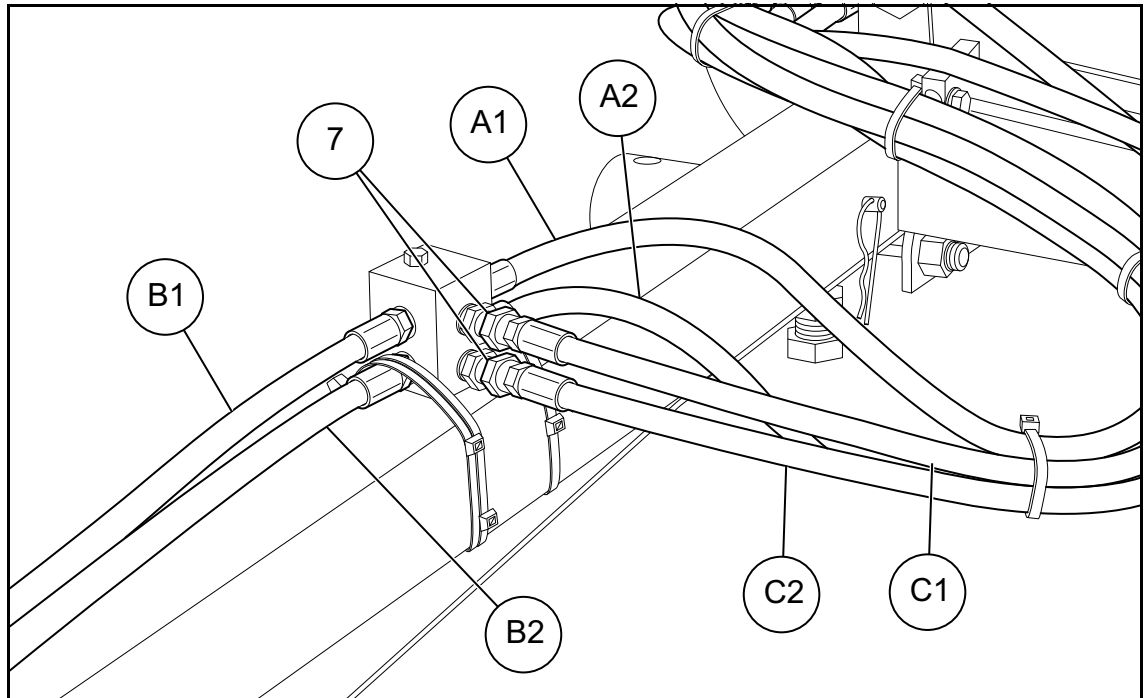
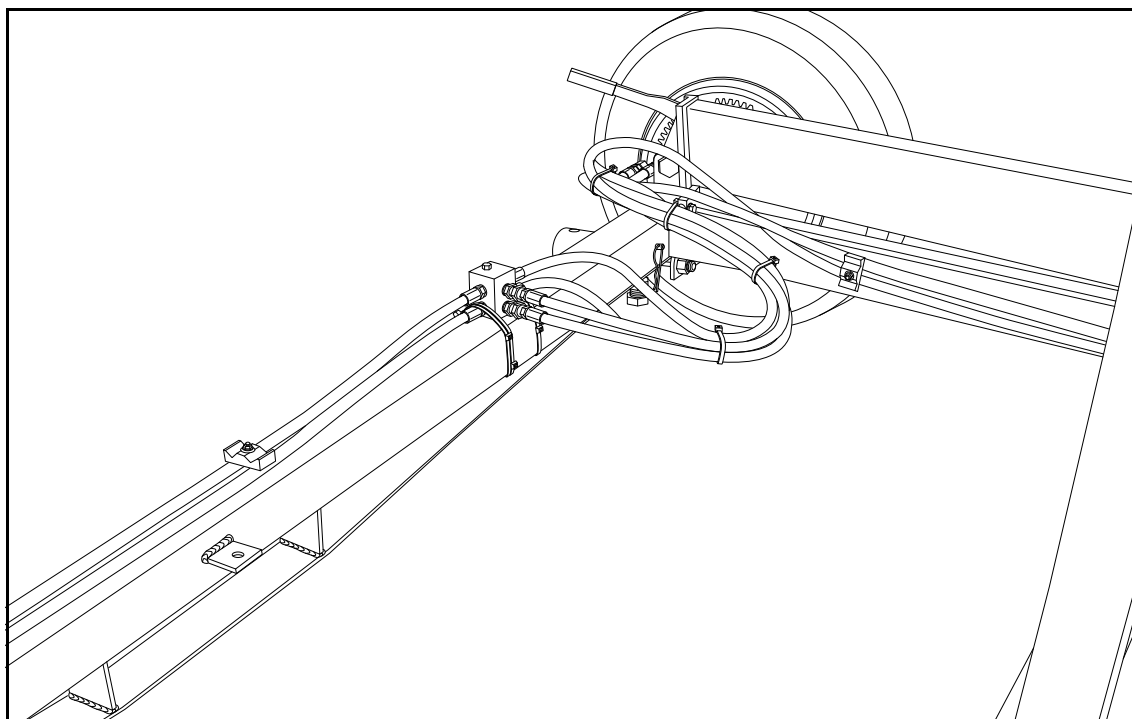

Figure 3.16 Cushion Block and Hydraulic Hoses
Figure 3.18 Securing Hoses to the Main Axle and Axle Arm
1. Place cushion block in position shown in Figure 3.16 and attach two 3/8" swivels (7) to ports facing the hopper side.
4. Secure hoses B1 and B2 to main axle with a plastic hydraulic clamp, 1/4" x 3" tek screw, and 1/4" flat washer (see Figure 3.18).
5. Install zip ties on A1, A2, C1, and C2. Route C1 and C2 along the axle arm and secure with 1/4" x 3" tek screws and 1/4" flat washers (see Figure 3.16 and Figure 3.18).